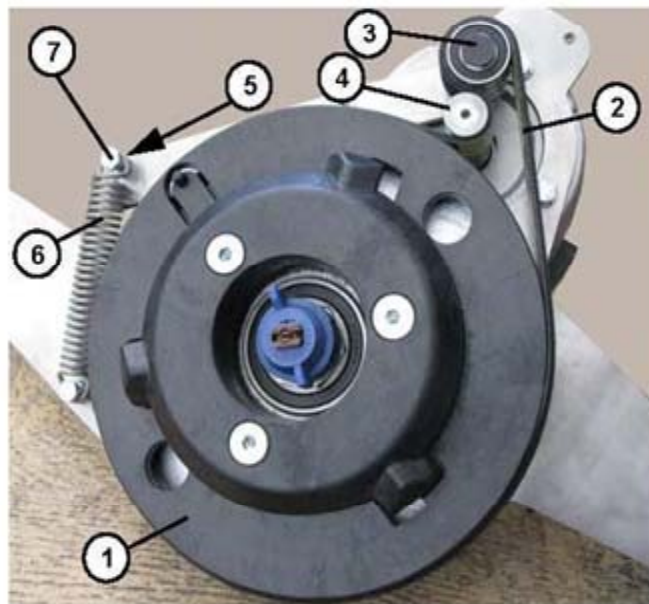

Figure 7-8
3. Operating on the disc brush holder head, manually rotate the brush holder hub (1, **Figure 7-8**) progressively the lifting belt (2) until it disengages from the pulleys (3) and (4) and from the brush holder hub (1).